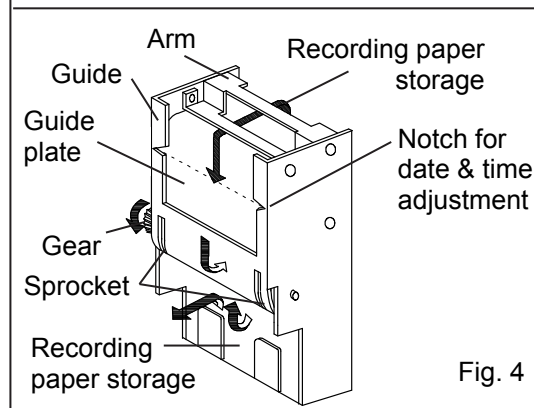

Fig. 4
- Pass the recording paper under the arm through between the guide plate. (See Fig. 4)